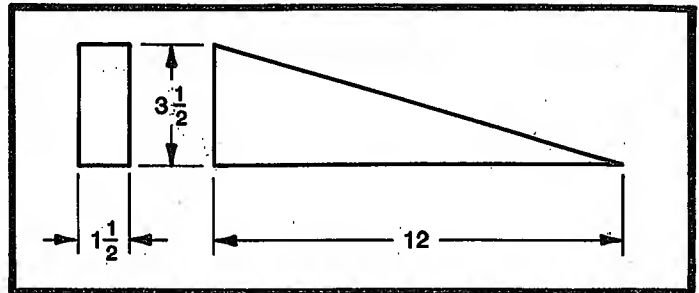

FIGURE 57
6. Position three wooden wedges, Figure 57, between the upper and lower knives. The wedges can be cut from a standard 2" x 4" lumber. Place these wedges on the 1" x 3" strips of wood previously installed. On some shears it may be necessary to use spacers under the wedges at the high end of the ram. **DO NOT DRIVE THEM TIGHT.**
Use the three wooden wedges as shown in Figure 57 to support the knife
47. Position the wooden wedges, Figure 57, between the knives next to every other holddown unit for seating the knives. These wedges must be snug between the knives. It is not necessary to drive them tight.